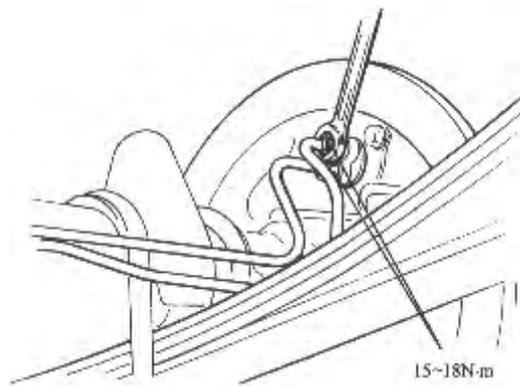

FIG.13-35
(10) Remove air bleed plug cap and connect brake pipe to wheel cylinder. Tighten nut to specified torque:14~18N.m (FIG.13-35)